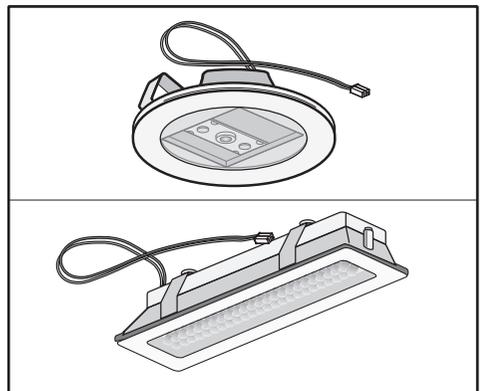

Fig.7
- 4.1 Replacing LED lamps (Fig.7): . . . . . 9
### 4.1 Replacing LED lamps (Fig.7):